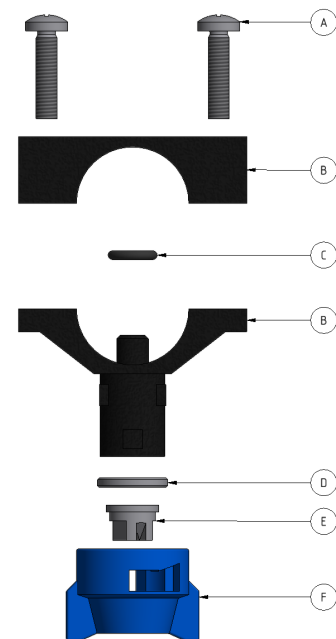

Figure 8.2 Nozzle components:
7. Turn the mode selector to the ON (1) position and the main power switch to the ON (1) position.
*It is important that the nozzle nuts (see Figure 8.2) are refitted correctly after the nozzles have been cleaned. If a nozzle nut loosens, the nozzle tip will fall out and the water jet created will then destroy the filter fabric.*